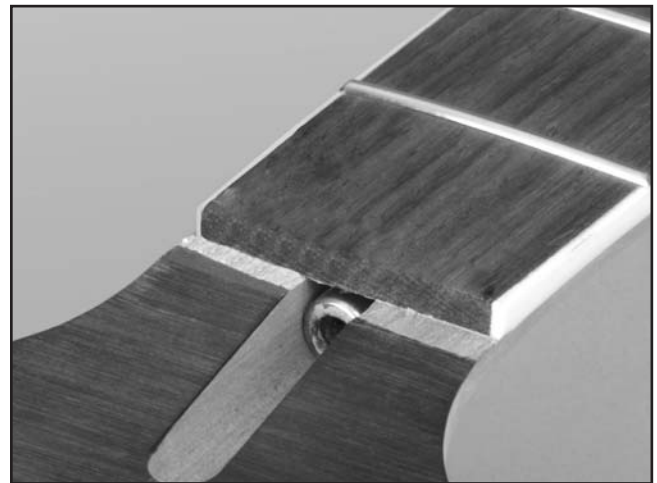

Figure 24. Truss rod nut.
3. Loosen the strings and turn the truss rod nut in the base of the neck (**Figure 24**) counterclockwise to release tension on the neck. Retighten until the nut begins to grab.